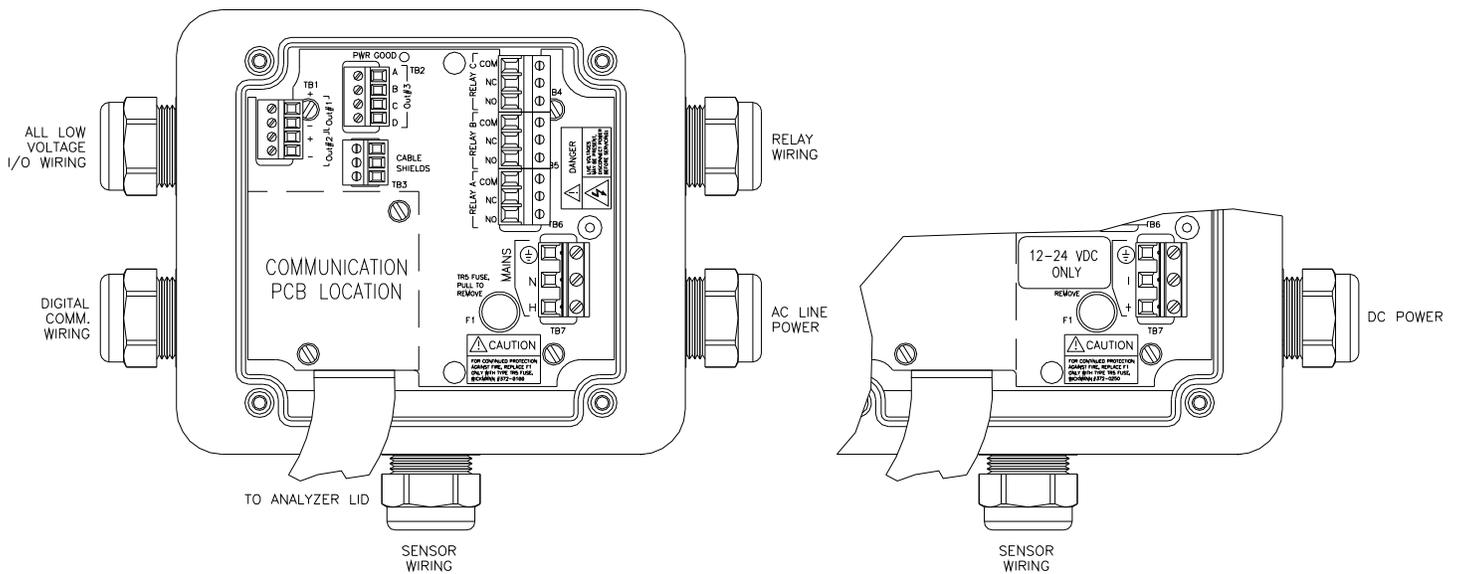

Figure 9 - Line Power Connection
1. Use wiring practices that conform to all national, state and local electrical codes. For proper safety as well as stable measuring performance, it is important that the earth ground connection be made to a solid ground point from terminal 12 (Figure 9).
The power strip, **TB5**, allows up to 12 AWG wire. A wire gauge of 16 AWG is recommended. DC powered units are connected to the same terminals used for AC connections and are marked as indicated in Figure 9 above.